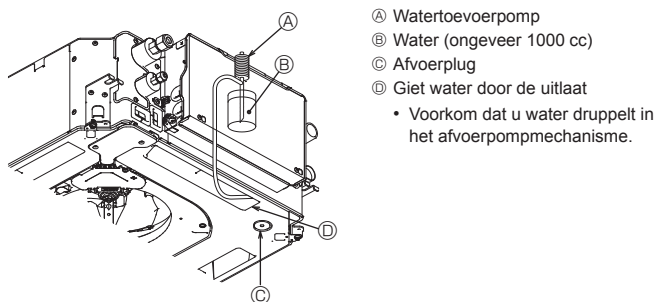

Fig. 8-5
8.4. Controle van de drainage (Fig. 8-5)